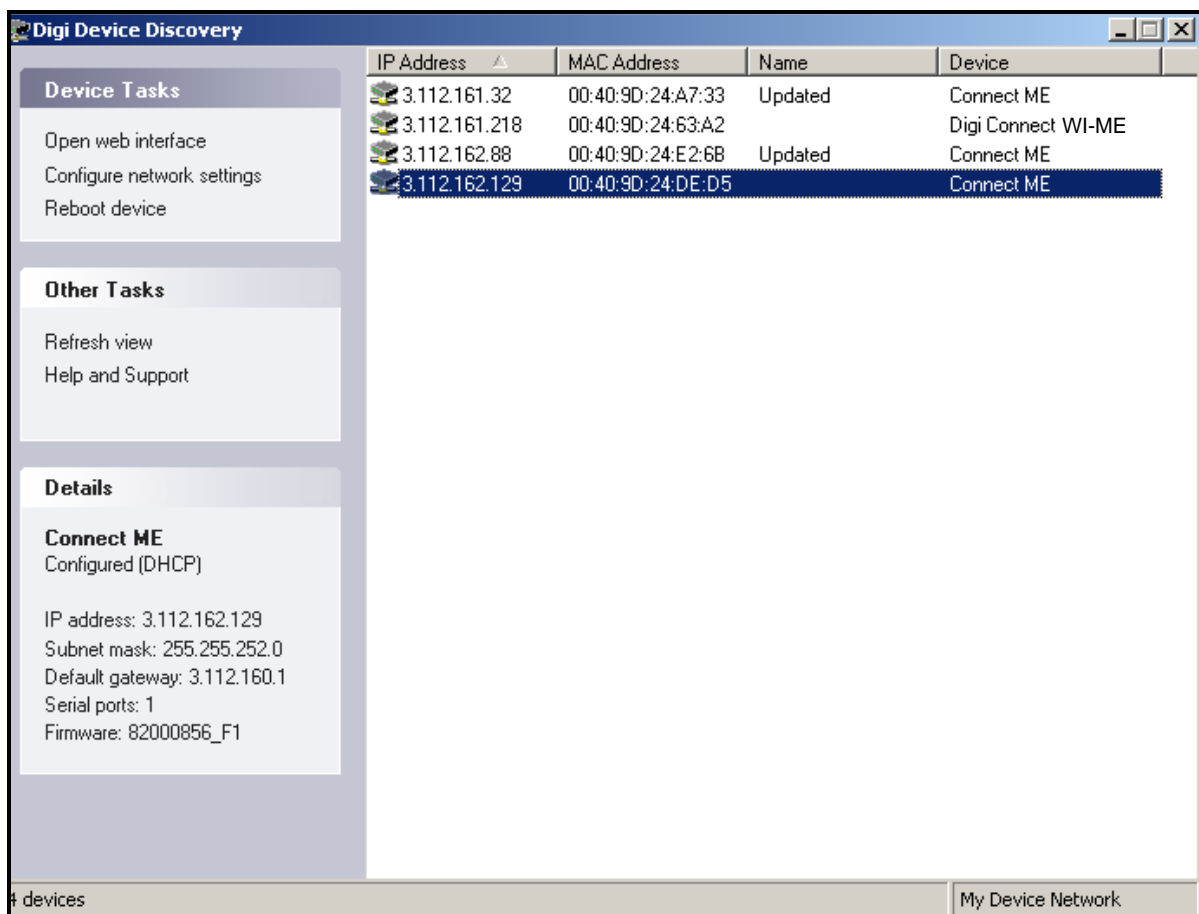

Figure 30: Finding the Assigned IP Address
1. Run the *Digi Device Discovery Program* (see Figure 30 below).